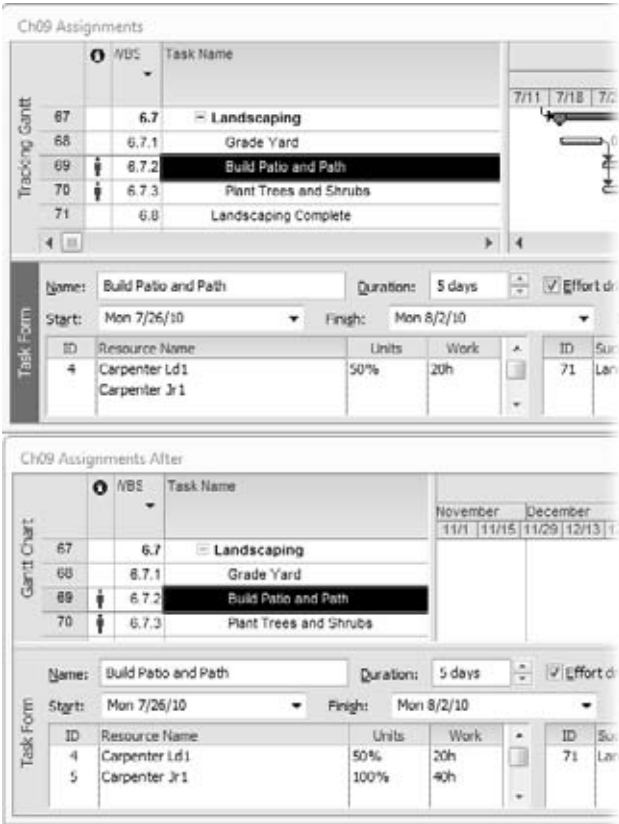

Figure 9-14:
3. **To reduce the percentage of time that a resource works on the task, select that resource’s Units cell, and then type the new value, for example, changing units from 100% to 50%, as shown in the top window of Figure 9-14.**
4. To add additional resources, in the Task Form, click the first blank Resource Name cell, and then, from the drop-down list, choose the name of the resource you want to assign, illustrated in the top window of Figure 9-14.
- The duration remains the same, and Project calculates the work assigned to each resource, as shown in the bottom window of Figure 9-14.